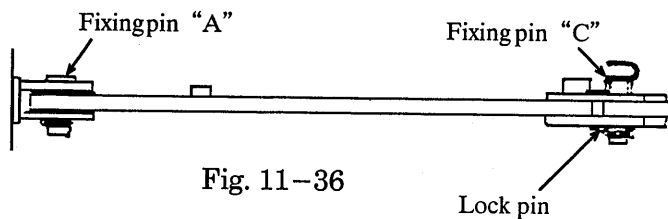

Fig. 11-36
- (9) After the crawler is inserted, extend the link, and insert the pin "C". Then, extend the horizontal cylinder, and insert the pin "A". (Fig. 11-36)